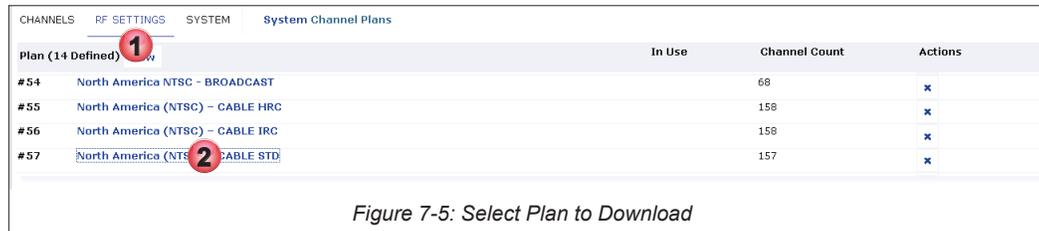

Figure 7-5: Select Plan to Download
1. Click the **RF Settings** Tab if it isn't already selected, Figure 7-5.